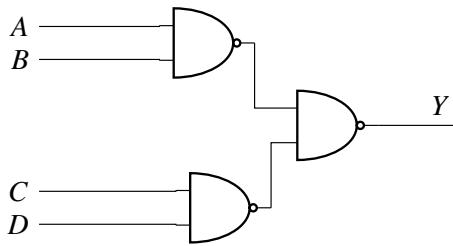

Fig. 3.32
51. In the logic circuit shown in Fig. 3.32, Y is given by